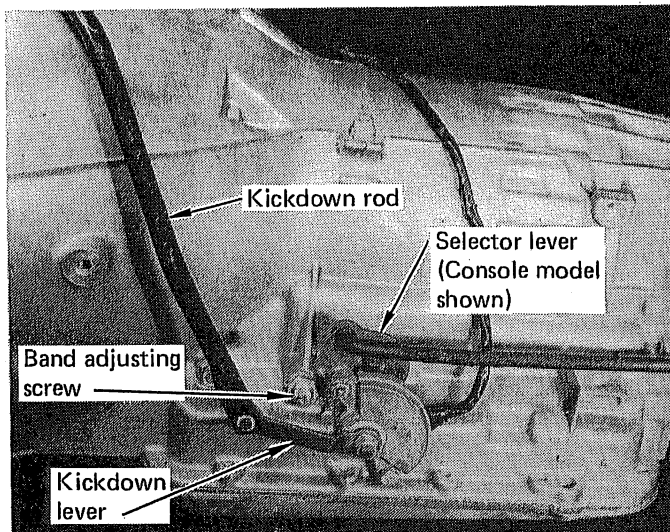

FIGURE 1
**STEP 2.** Manually operate the kickdown rod from the carburetor with the gas pedal depressed half way. (See Fig. 1) Note how it moves freely with no bind. Observe how the internal linkage engages the valve body. Note: Some '75 models may have a slightly different oil filter than pictured.
**STEP 4.** Adjust the front band. Loosen the outer jam nut with a 13/16" wrench. (See Fig. 1) Tighten the band adjusting screw to 120-in. lbs and back off 1-1/2 turns. Hold the band adjusting screw in this position and tighten the jam